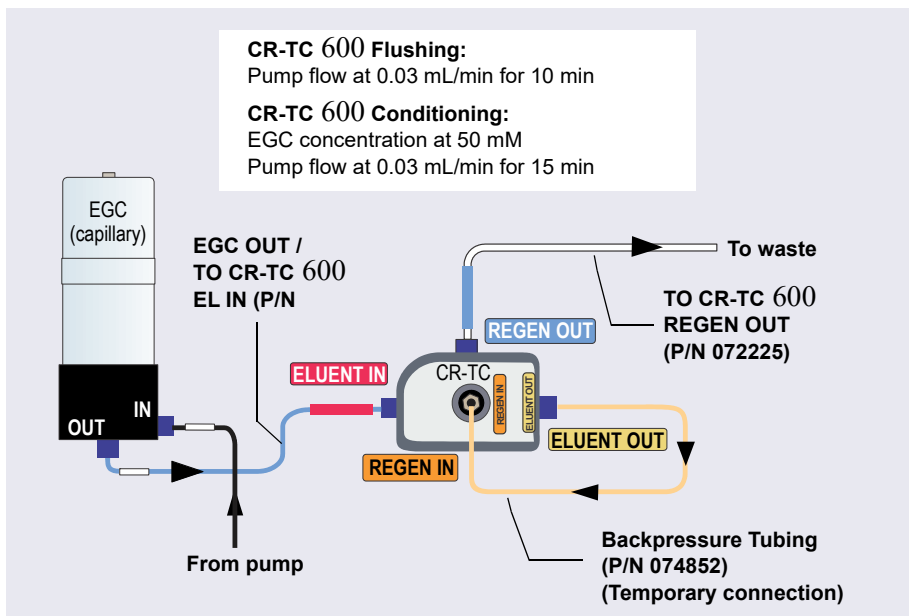

Figure 10-28. Flow Schematic for Flushing and Conditioning the Dionex CR-TC 600 (Capillary)
3. Connect the plumbing for flushing the Dionex CR-TC 600 as shown in Figure 10-28. The same plumbing is also used for conditioning the Dionex CR-TC 600.